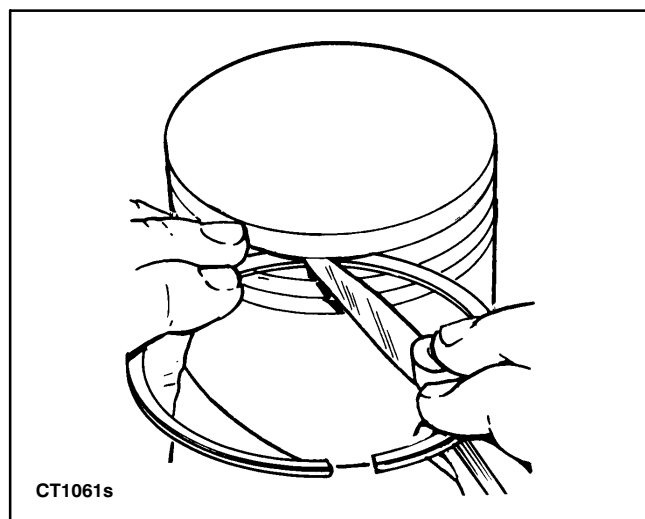

FIGURE 10-24. CHECKING RING LAND
**Piston Inspection:** Inspect the piston for fractures at the ring lands, skirt, and pin bosses. Check for wear at the ring lands using a new ring and feeler gauge as shown in Figure 10-24. Replace the piston when the side clearance of the rings exceed the specified limit.